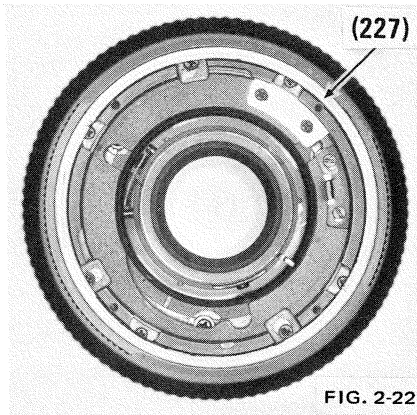

FIG. 2-22
- b) Remove aperture ring retainer ring (227). Use Tool No. 3650529. Fig. 2-22.